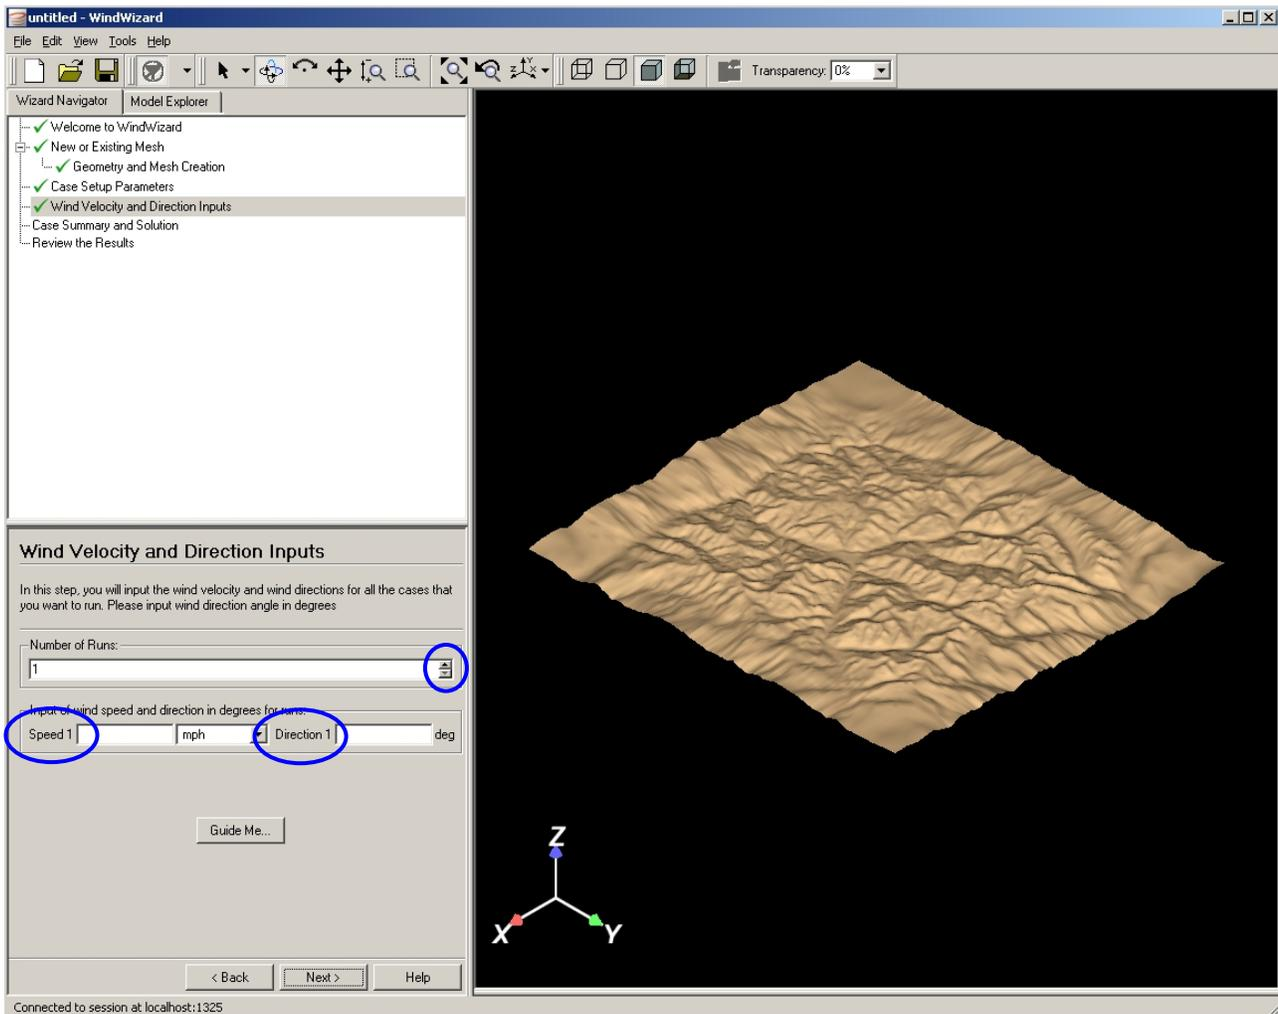

Figure 5. WindWizard wind velocity and direction input window.
15. Click **Next** (Figure 5).